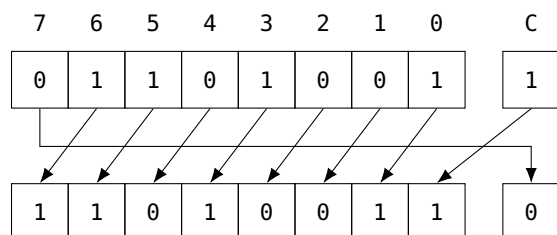

Figure 19.5: Rotate left through carry.
**Rotate through carry** instructions can occur to the left (using the ROL instruction) or right (using the ROR instruction), and execute a rotation (where the register wraps around so the MSB is moved to the LSB, or vice versa) through the previous value of the carry bit. A rotate left through carry is depicted graphically in Figure 19.5.